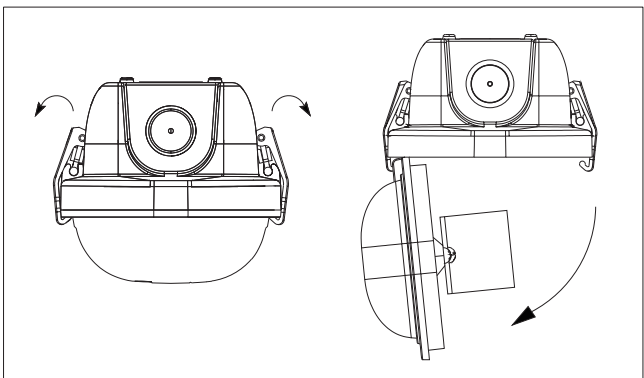

Figure 2
- Release the latches by pulling the top of the latch away from the lens on the fixture. Detach the LED tray from the housing (Figure 2).